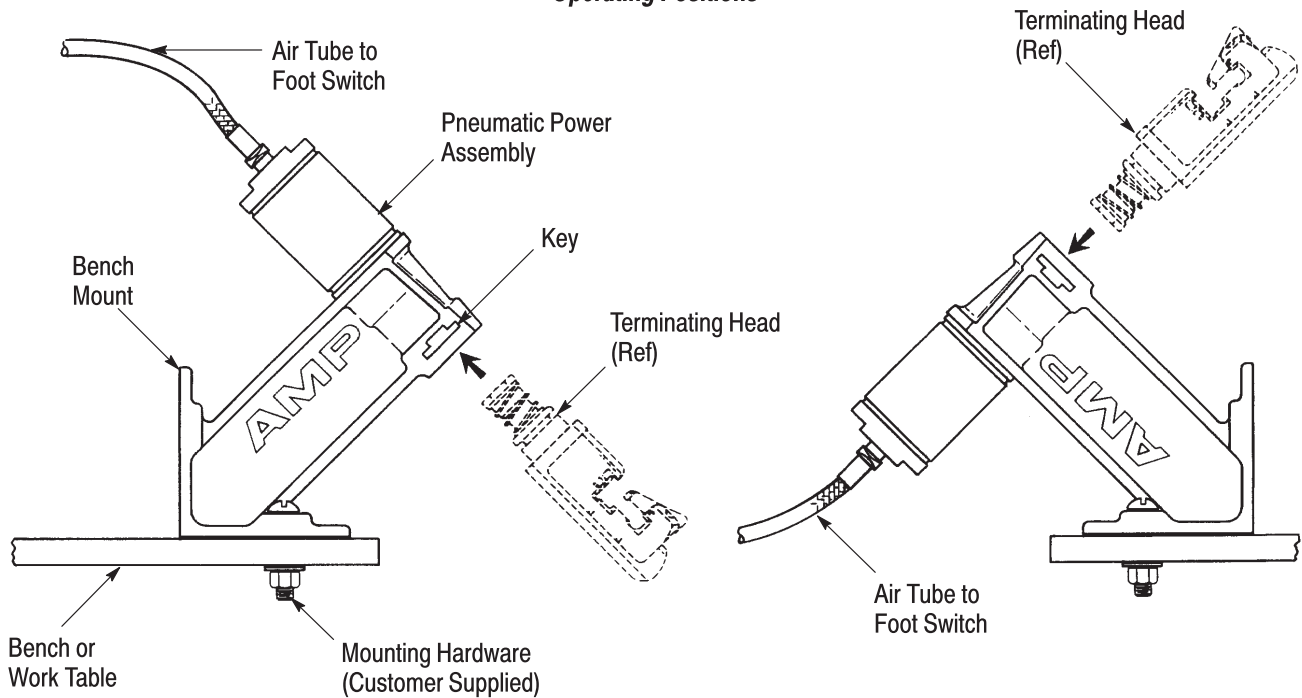
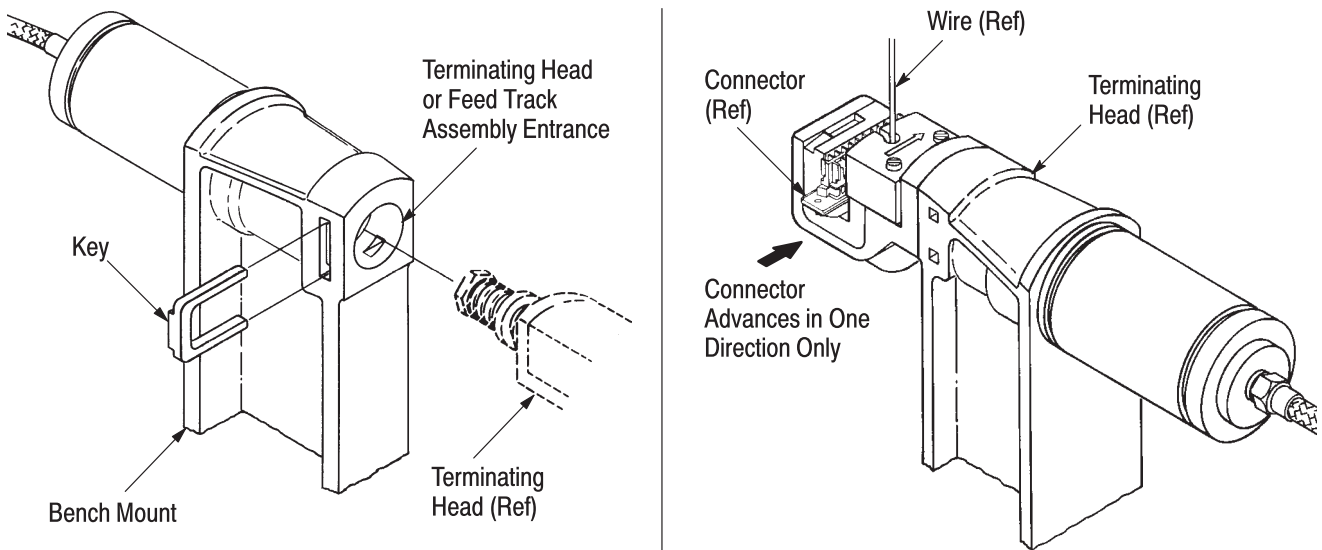

Figure 1
Figure 2
**2. DESCRIPTION** (See Figure 1)
The bench mount is designed to be mounted in either of the two positions shown in Figure 1. Orientation of the bench mount depends on operator preference and the desired eject direction of terminated connector (refer to Figure 2). Install the bench mount as follows:
3. Insert the terminating head or feed track assembly into the head entrance of the power assembly body until it bottoms. See Figure 2.
5. To remove the terminating head or feed track assembly, disconnect the power bench assembly from air supply, remove the key, and pull the terminating head or feed track assembly out of the power assembly. Refer to Figure 2.